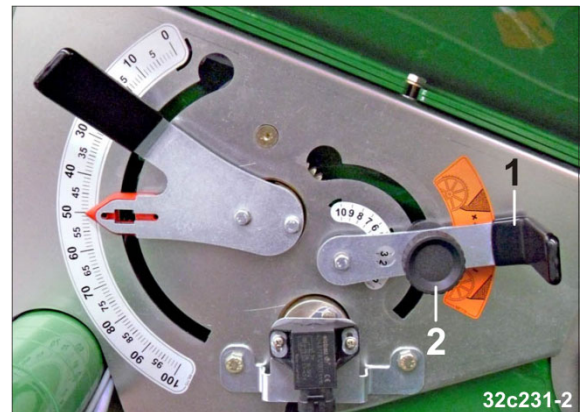

Fig. 162
1. Adjust the seed shutter using the lever (Fig. 162/1). Take the preliminary setting value from Table (Fig. 68).
2. Secure the lever position with the knurled screw (Fig. 162/2).